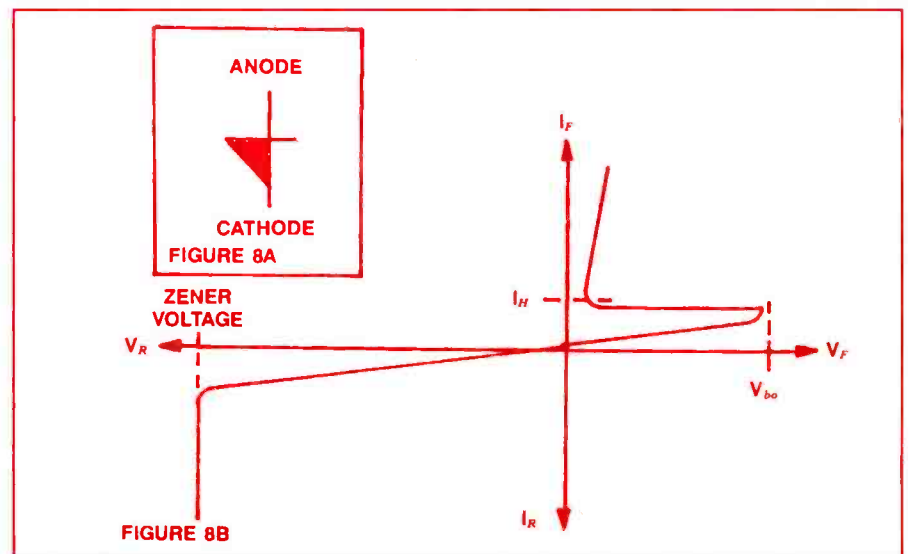

Figure 2. What electronic component does this symbol (8A), which has a characteristic curve as shown in 8B, represent?
- The symbol in Figure 2 is for a _____.